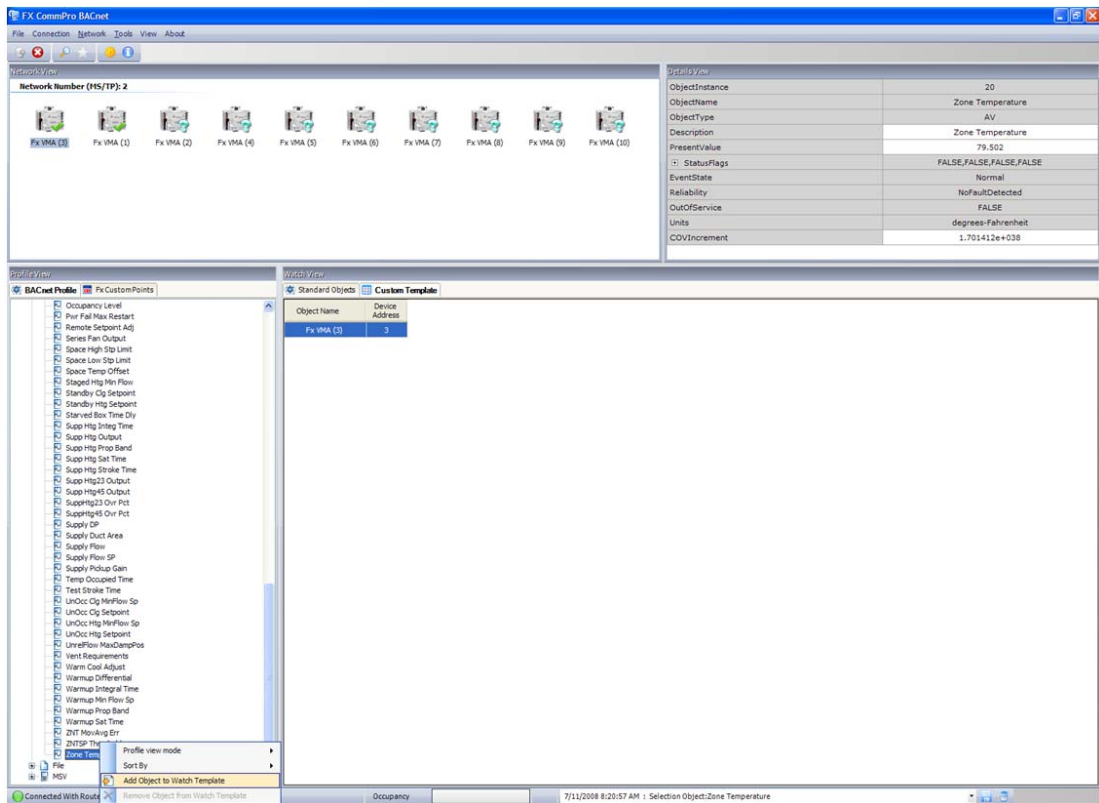

Figure 34: Add Objects to Watch Template
2. From the Profile View, right-click the points you want and select Add Objects to Watch Template (Figure 34). The point information appears on the Standard Objects tab.